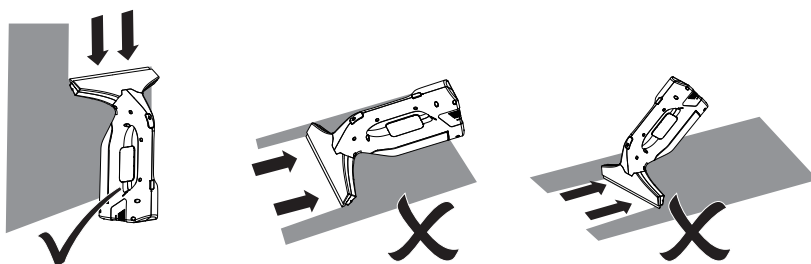

Fig. 9
- > Press the On/off switch (3) to turn on the product.
- > Set the product with the suction attachment (1) at the top of the surface to be cleaned (e.g. a window). Slowly move the product all the way down the surface being cleaned, ensuring that the rubber blade remains in contact with the surface at all times. Water and detergent residue will be removed and sucked into the dirty water tank (2) (Fig. 9).